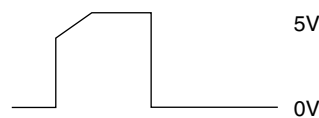

Figure B-5
- Yes Is a RST signal in Q3 is as specified in Figure B-5?